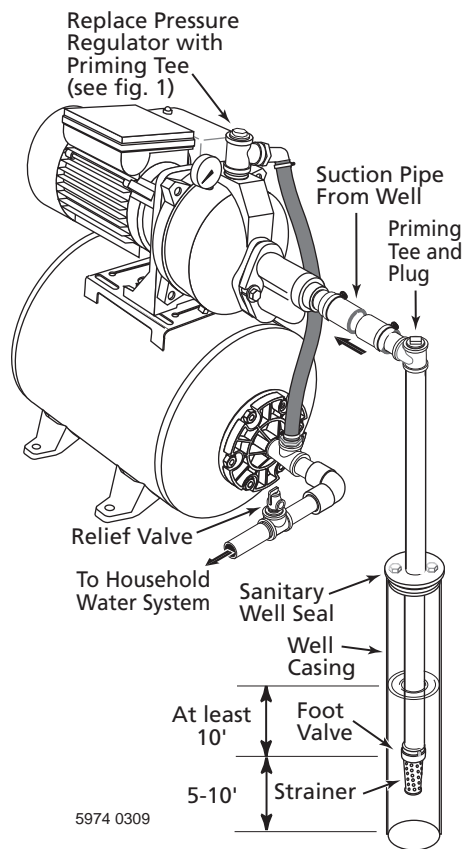

Figure 7: Cased Well Installation
Cased Well Installation, 2" or Larger Casing (Figure 7)
- Step 4. Assemble the foot valve, strainer, and well pipe (see Figure 7). Make sure that the foot valve works freely.
- Step 6. Install a priming tee, priming plug, and suction pipe to the pump (see Figures 7 and 8). Connect the pipe from the well to the pump suction port, using the fewest possible fittings – especially elbows – as fittings increase friction in the pipe.
- The suction pipe should be at least as large as the suction port on the pump (include a check valve – see Figures 7 and 8).